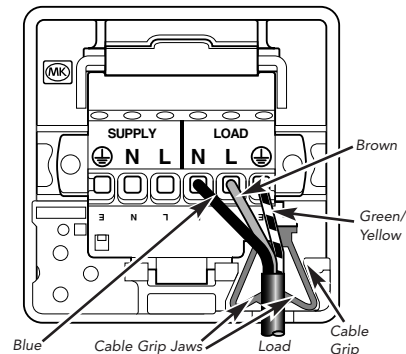

Figure 4
- The conductors should now be connected to the respective load terminals as described below and shown in figure 4.
- The conductors should now be connected to the respective load terminals as described below and shown in **figure 4**.